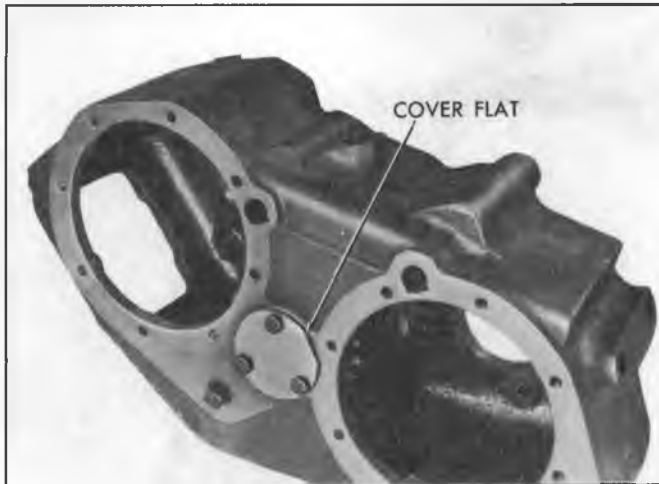

Fig. 14C--Installing Idler Shaft Rear Cover
**NOTE:** Flat on cover must be located adjacent to front output shaft rear cover (Fig. 14C).